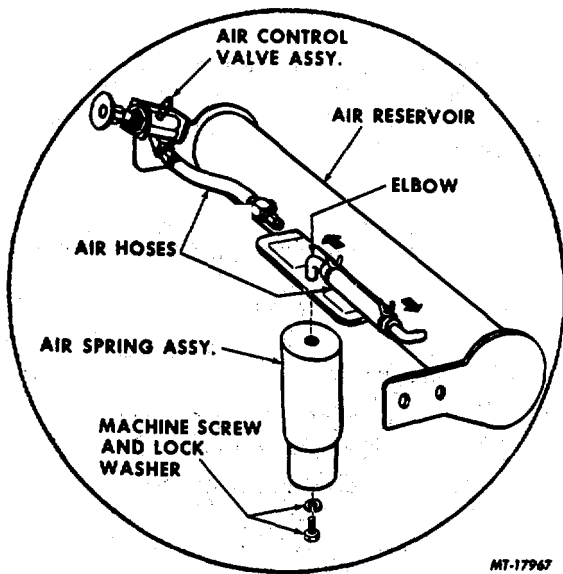

Fig. 7. Air Suspension System
4. Disengage air reservoir from seat, right and left side panels by removing capscrews and lock washers. This permits entire air suspension system to be removed as a unit as shown in Fig. 7.
3. Hose from control valve to reservoir can be removed by using pliers and pulling away from hose fittings. The hose from reservoir to air spring can be removed using a pliers, release hose clamps and slide off ends of hose in direction of arrows (Fig. 7). Hose can then be removed from fittings.